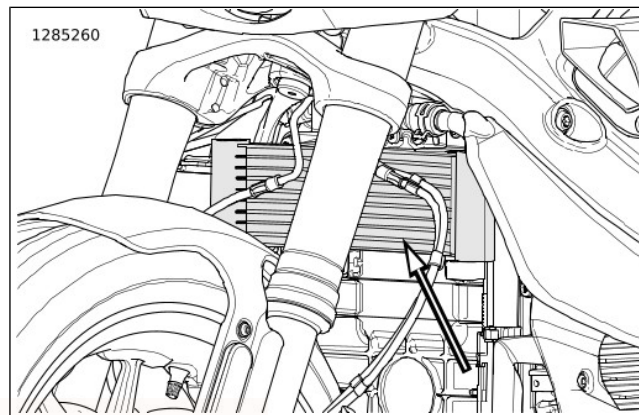

Figure 60. Radiator
1. See Figure 60. Clean debris from radiator fins.